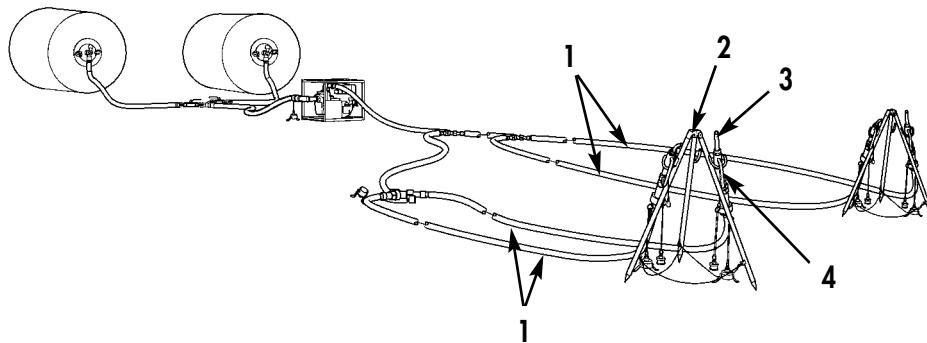

Figure 8. Hose Connections to Nozzles.
16. Remove four plugs and caps, and connect four nozzle assemblies (Figure 8, Item 3) to four 1.5 in. (38 mm) DIA x 25 ft (7.6 m) long hoses (Figure 8, Item 1).
17. Set up nozzle stand assembly (Figure 8, Item 2), and secure two nozzle assemblies (Figure 8, Item 3) to hooks (Figure 8, Item 4) on stand assembly (Figure 8, Item 2) at two distribution points.